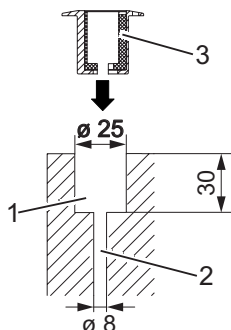

Fig. 26: Borehole for the eccentric bushing
9. Drill the hole (Fig. 26/1) with  $\varnothing 25$  mm at least 30 mm deep.
10. Drill the hole (Fig. 26/2) with  $\varnothing 8$  mm for the fastening of the eccentric bushing with wall plugs or similar.
11. Insert the eccentric bushing (Fig. 26/3) and screw it in place using suitable mounting material.